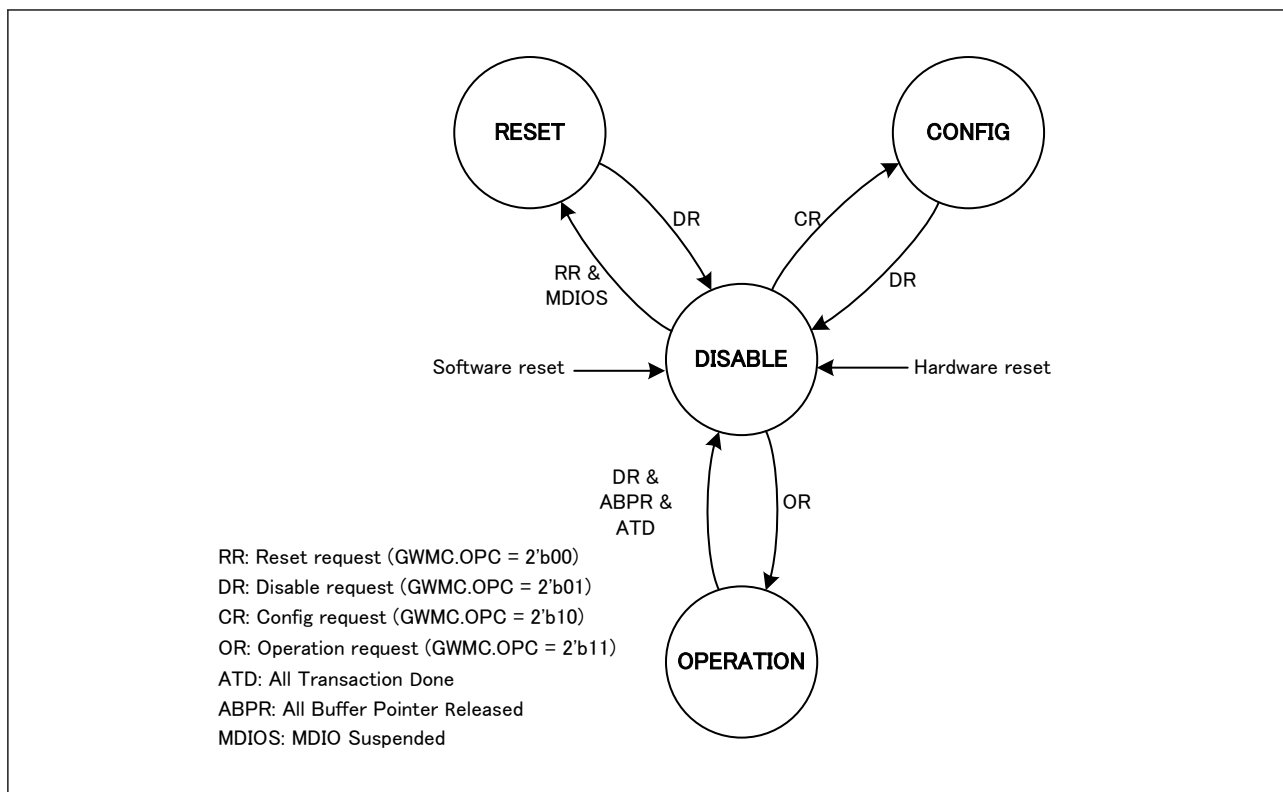

Figure 32.2 **Operating mode transitions**
Figure 32.2 shows the operating mode transitions.
- Software shall only trigger transitions shown in Figure 32.2